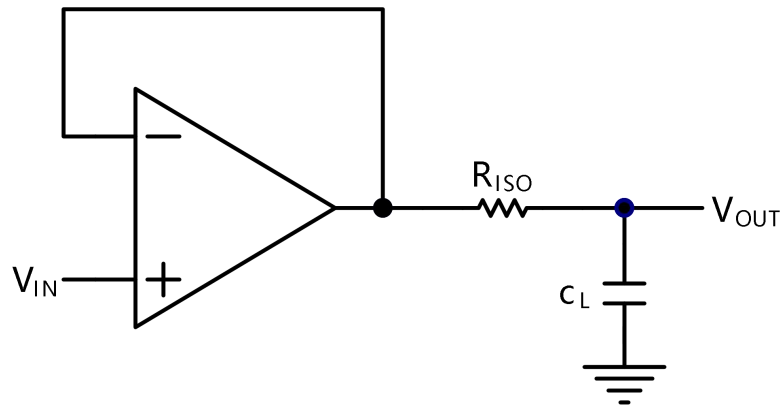
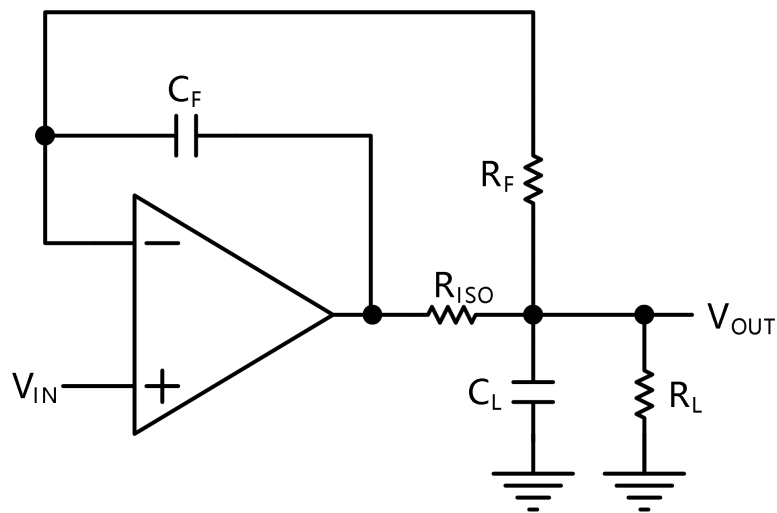

Figure 2. Indirectly Driving a Capacitive Load Using Isolation Resistor
Figure 3. Indirectly Driving a Capacitive Load with DC Accuracy
The CBMLM358 family is optimized for bandwidth and speed, not for driving capacitive loads. Output capacitance will create a pole in the amplifier's feedback path, leading to excessive peaking and potential oscillation. If dealing with load capacitance is a requirement of the application, the two strategies to consider are (1) using a small resistor in series with the amplifier's output and the load capacitance and (2) reducing the bandwidth of the amplifier's feedback loop by increasing the overall noise gain. Figure 2. shows a unity gain follower using the series resistor strategy. The resistor isolates the output from the capacitance and, more importantly, creates a zero in the feedback path that compensates for the pole created by the output capacitance.
The circuit in Figure 3 is an improvement to the one in Figure 2. RF provides the DC accuracy by feed-forward the VIN to RL. CF and RISO serve to counteract the loss of phase margin by feeding the high frequency component of the output signal back to the amplifier's inverting input, thereby preserving the phase margin in the overall feedback loop. Capacitive drive can be increased by increasing the value of CF. This in turn will slow down the pulse response.